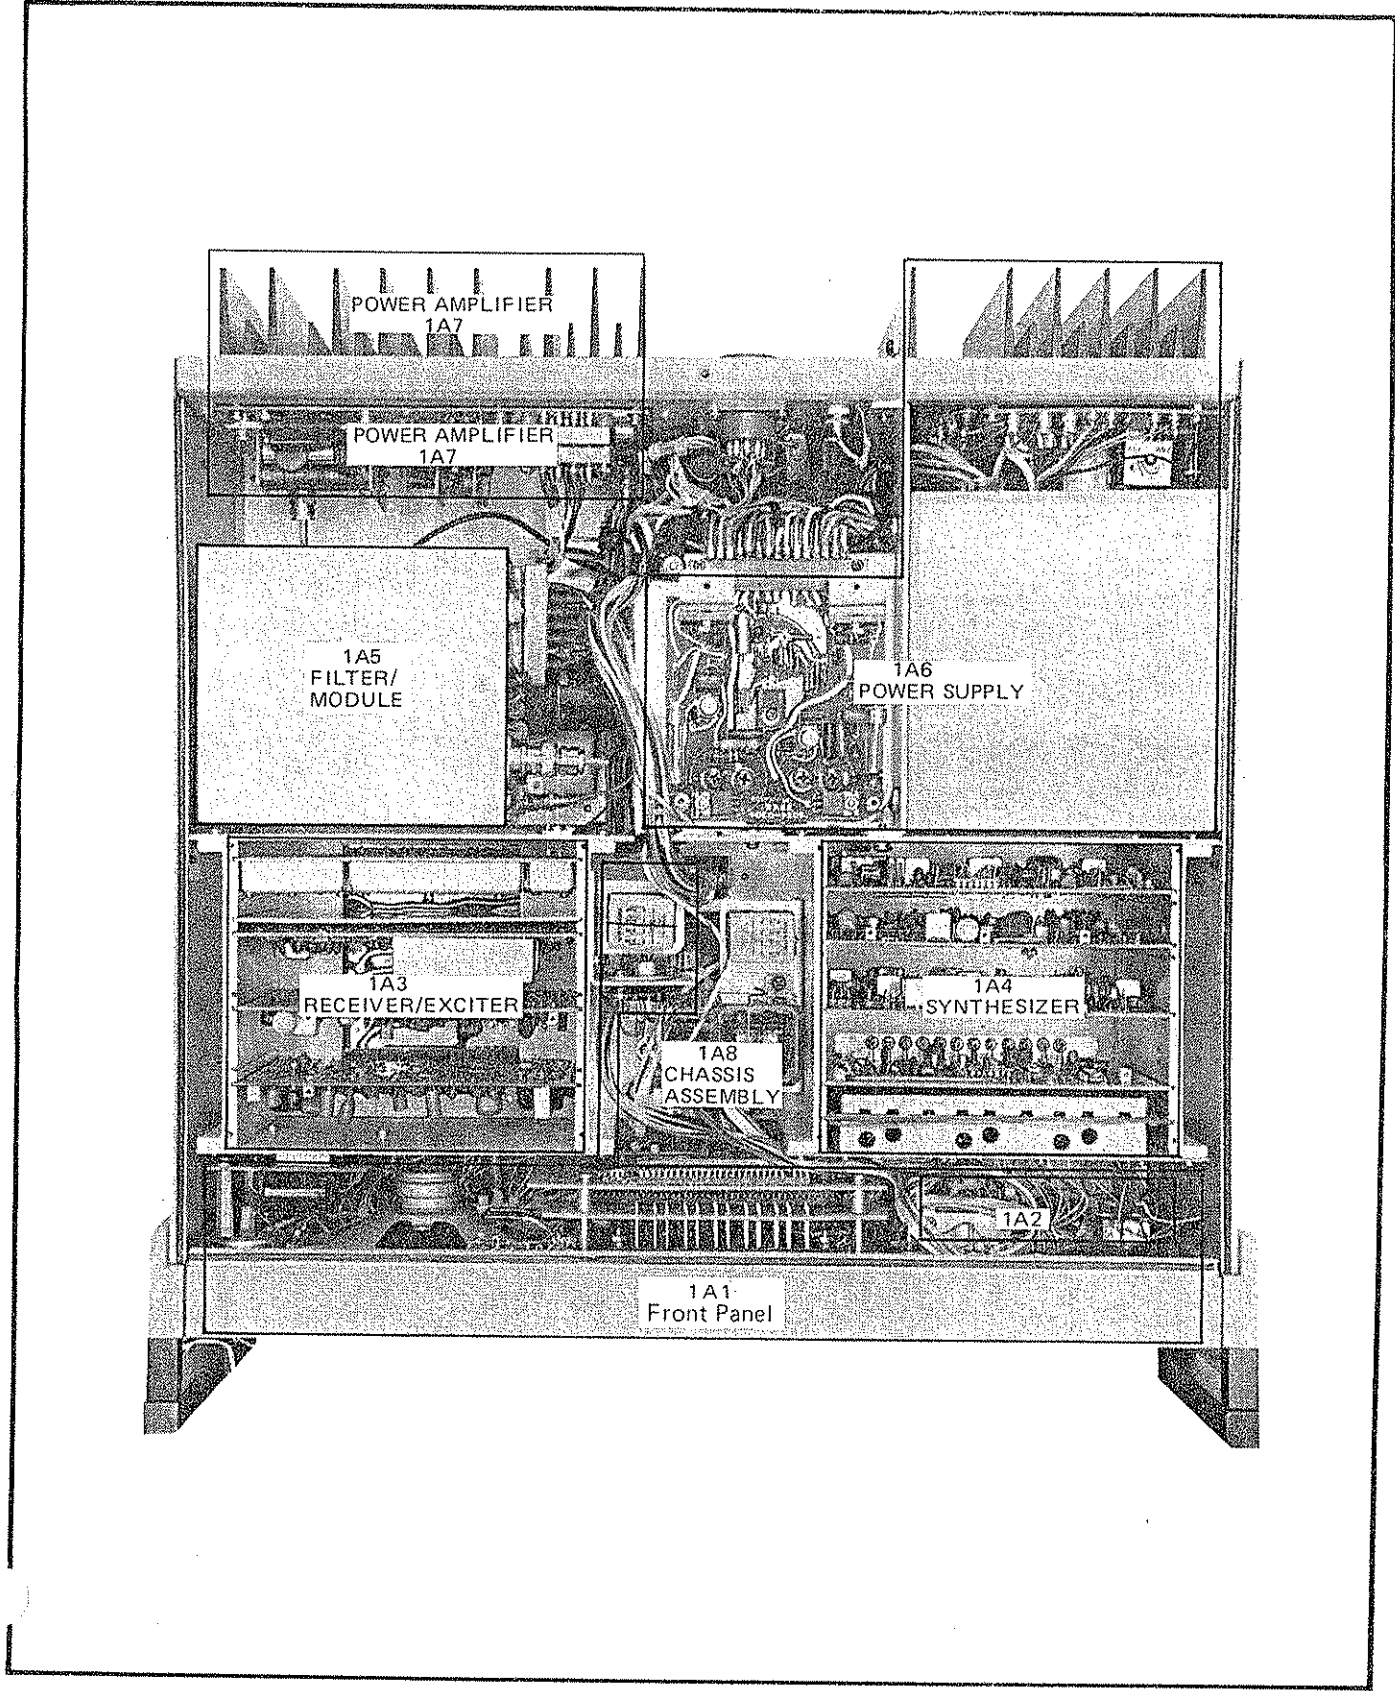

Figure 1.1 GSB-900DX Major Assembly Locations
The GSB-900DX is composed of seven major sub-assemblies, (1) front panel 1A1, (2) control panel 1A2 (optional), (3) receiver/ exciter 1A3, (4) synthesizer 1A4, (5) filter module 1A5, (6) power supply 1A6, (7) power amplifier 1A7. See Figure 1.1 for major assembly location.